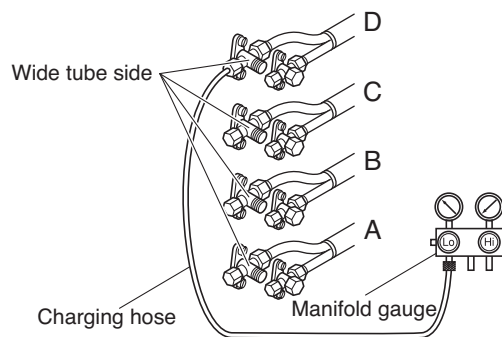

Fig. 23
- (2) Connect the manifold gauge to the charging port at the valve on the wide tube side of tube D. Purge the air from the charging hose. (Refer to Fig. 23.)
- (3) Perform cooling operation or forced cooling operation. When the pressure at the low-pressure side is 0.05 – 0.1 MPaG (0.5 – 1 kg/cm2G), fully close the spindles at the valves on the wide tube side of tubes A, B, C, and D, and immediately stop operation. (Refer to Fig. 23.)